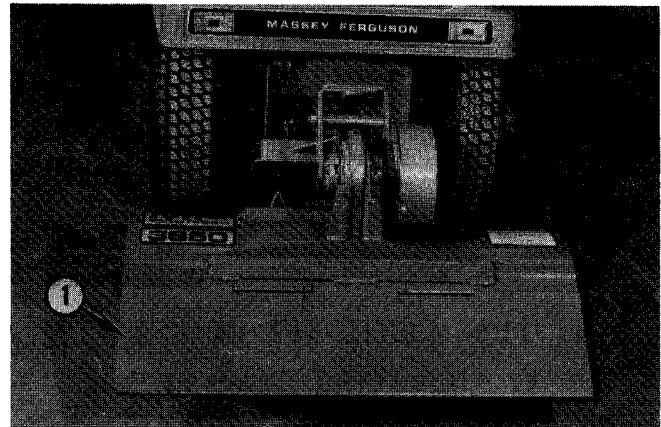
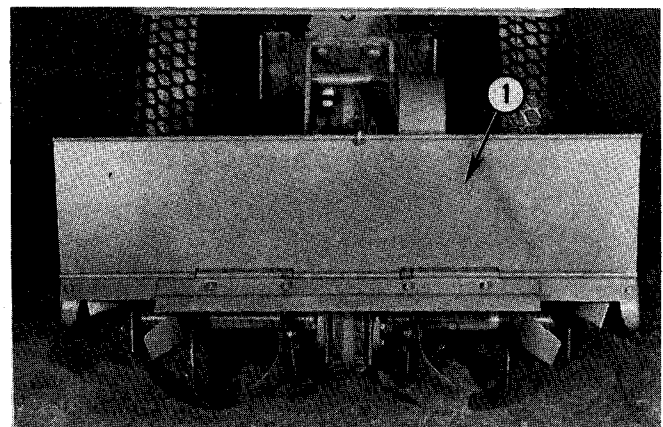

Fig. 13 - LEVELER BLADE
Fig. 14 - LEVELER BLADE
7. Lower leveler blade when tilling to produce a finer or smoother seedbed, Fig. 13. For coarse bed or when cultivating, move leveler blade all the way up, Fig. 14.